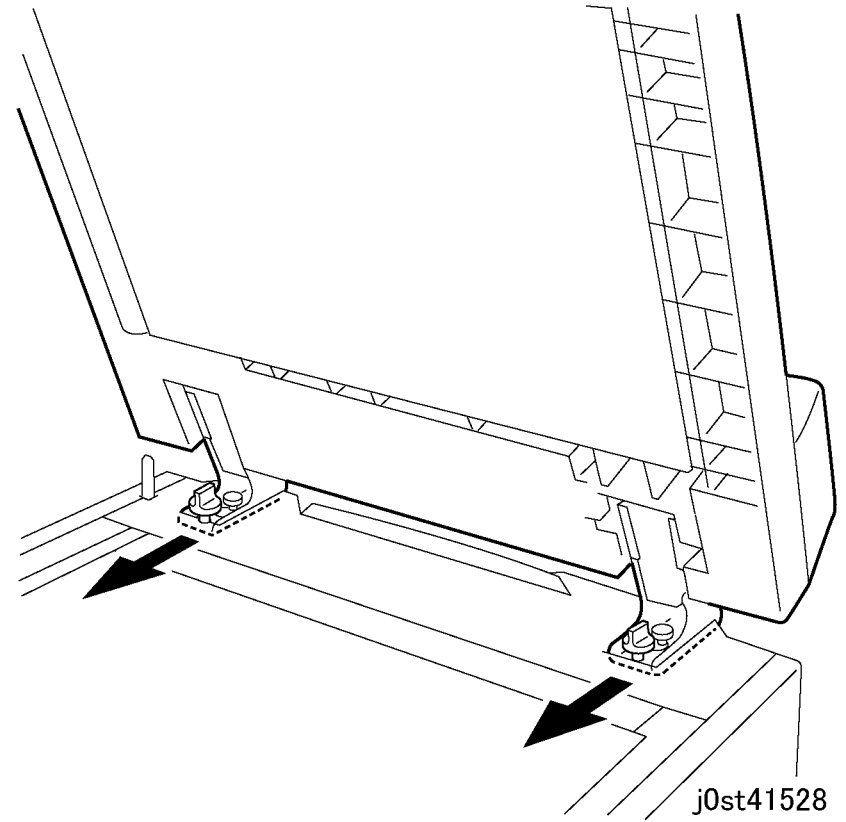

Figure 3 Installing the DADF (j0st41528)
1. When installing the DADF, push the DADF to the front, then secure. (Figure 3)